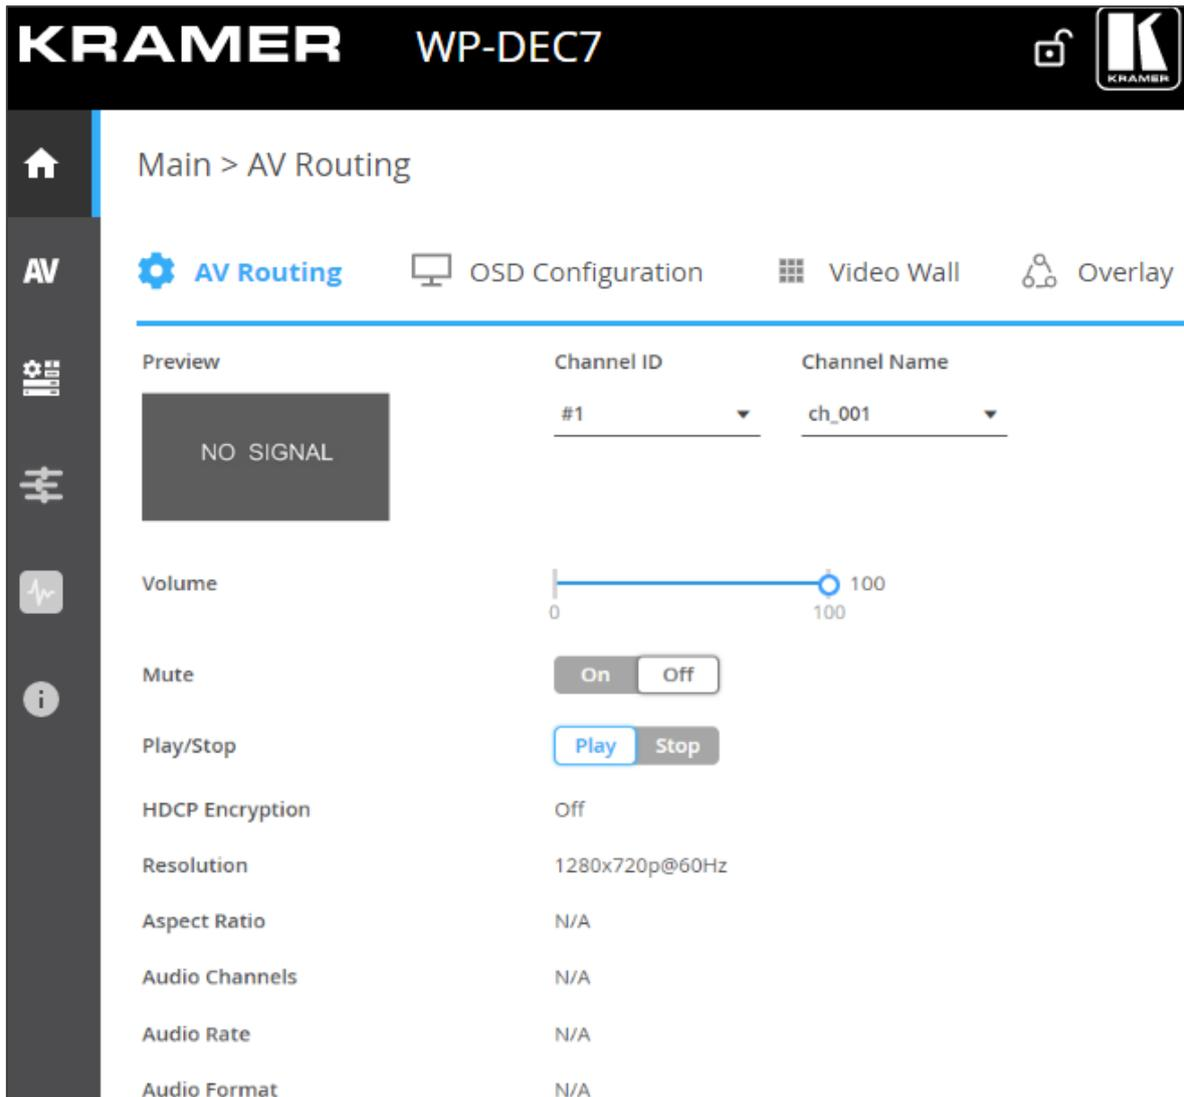

Figure 10: Device Control Page with Navigation List on Left
1. In the Navigation pane, Select **Main>AV Routing**. The AV Routing page appears (see Figure 10).
1. In the Navigation pane, Select **Main>AV Routing**. The AV Routing page appears (Figure 10).